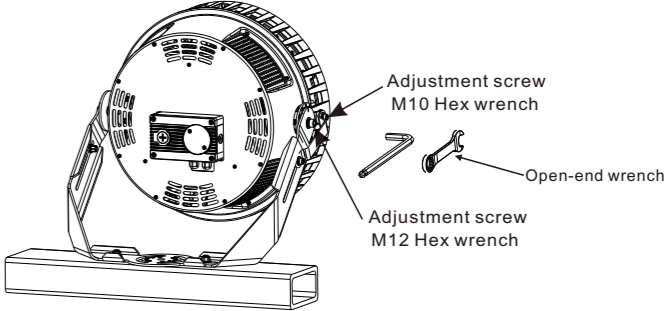

Figure 8
- 4. Use M12 hex wrench to loosen the adjustment screw used to adjust the angle (Figure 8).